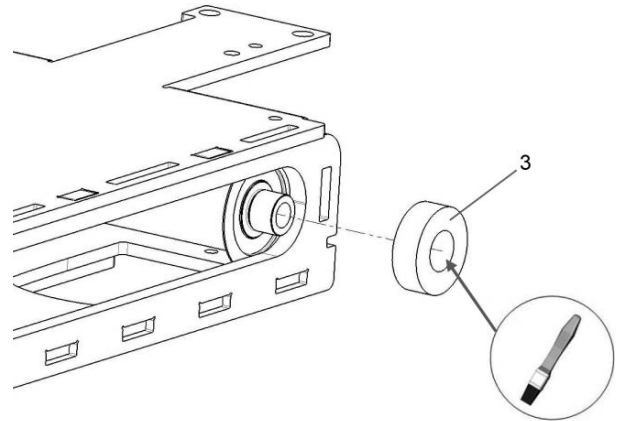

Fig. 18. Mount the bearing.
6. Lubricate the hole of the bearing (3) with grease before mounting. See fig. 18.